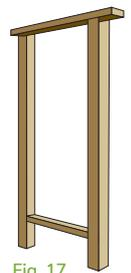

Fig. 17
3. **Single-Panel:** Construct frame of 4" x 4" posts and 2" x 4" rails (Fig. 17).